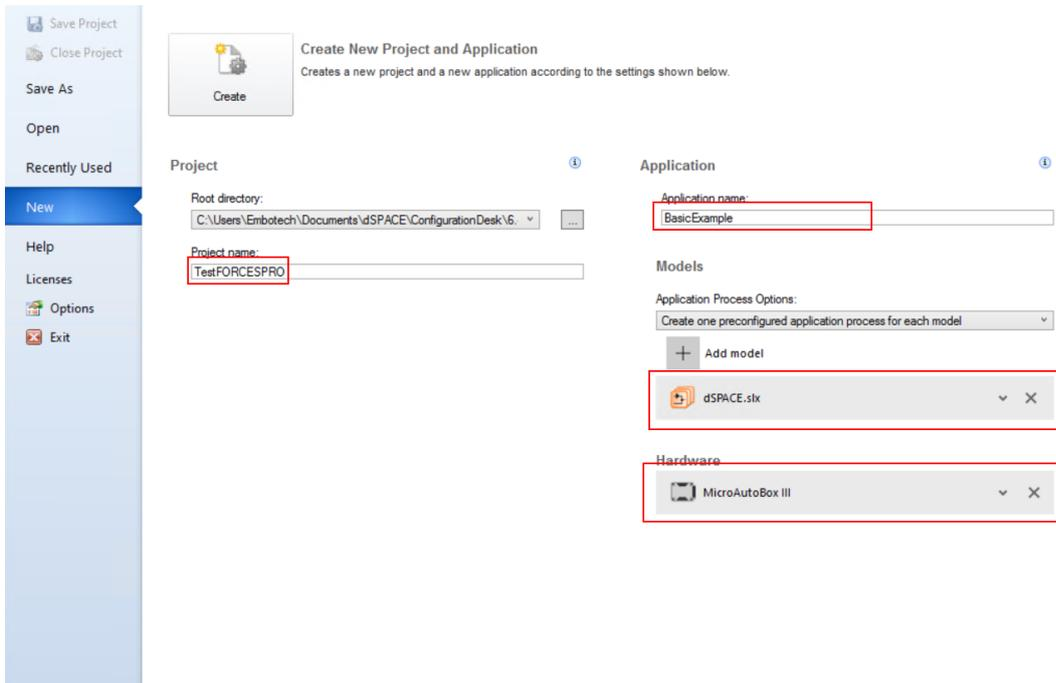

Figure 13.44: Create project and application in ConfigurationDesk.
- 15) Create a new Project and Application in ConfigurationDesk. Select directory of project, name of project and application, the model dSPACE.slx as the application process and connected dSPACE platform to deploy to (see Figure 13.44).